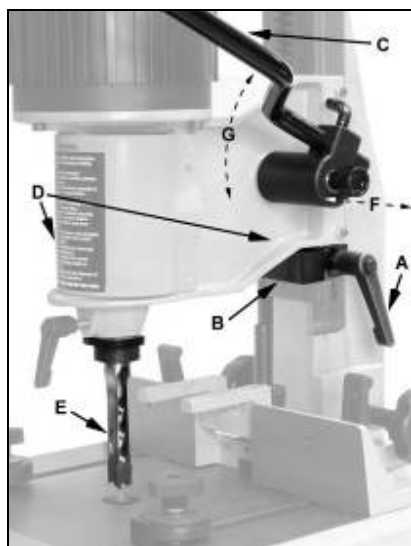

Fig 12
Set the depth stop (A, Fig 12) to the required depth of cut.
Lower the head (D, Fig 12) until the chisel (E) is at the desired depth.
Pulling out the hub (F, Fig 12) away from the head and repositioning it to the desired angle.